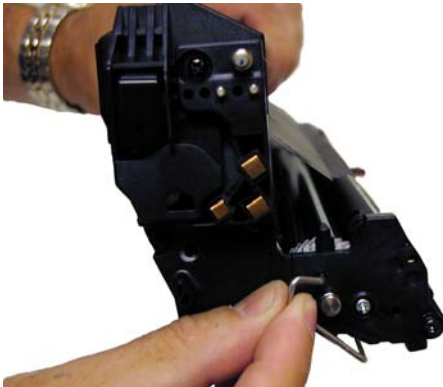

Figure 24
10) Remove the drum cover arm from the left (non-label) side of the cartridge. **Figure 24**